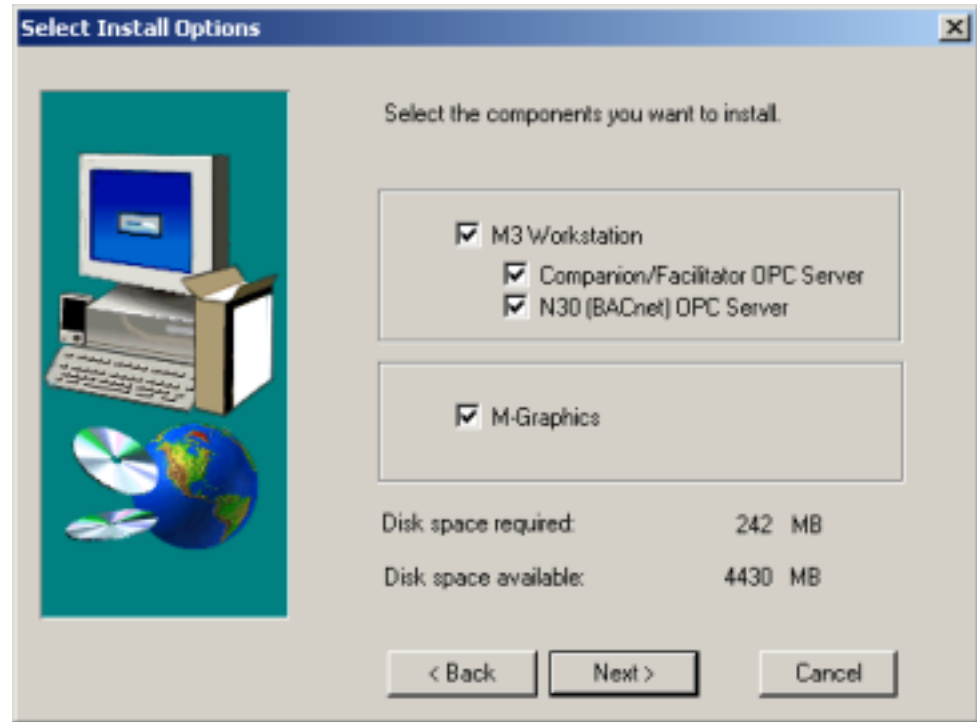

Figure 5: Select Install Options Dialog Box
2. When the Select Install Options window (Figure 5) appears, select the components to install. Selecting M3 Workstation requires that you install one or both servers: Companion/Facilitator OPC Server or N30 (BACnet) OPC Server. Click Next to continue.